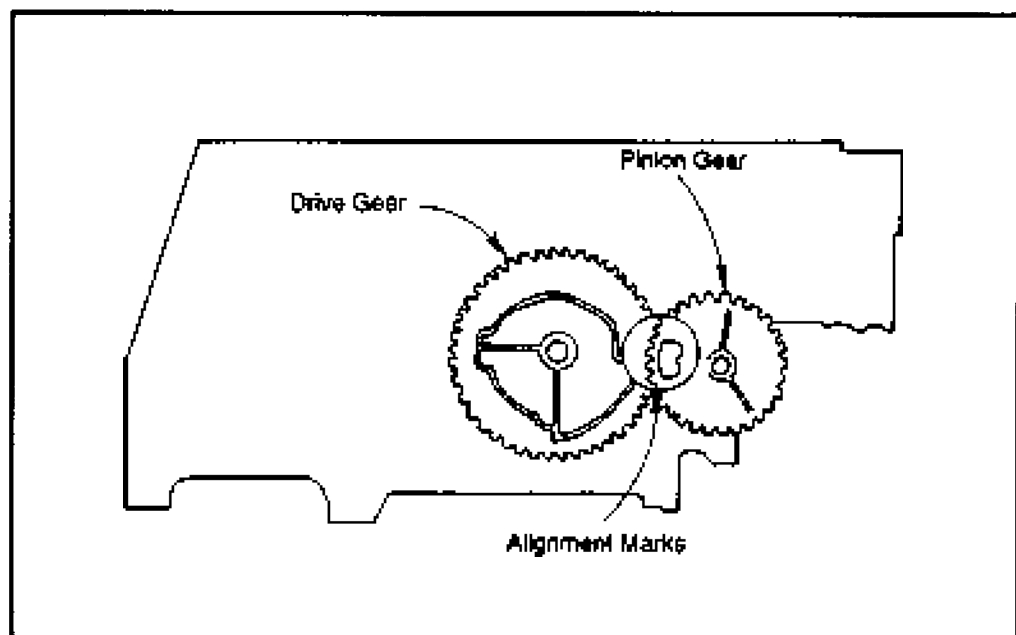

Figure 32: Pinion gear and drive gear alignment
- Make sure that the markings found on the pinion gear and drive gear match. Figure 32 shows where this alignment takes place.